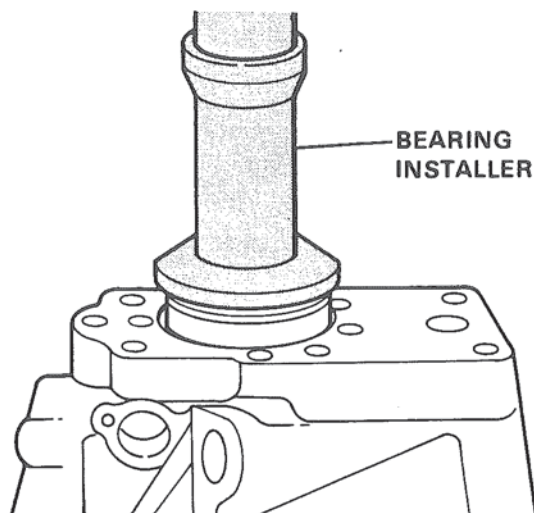

Figure 16. Installing Bearing.
7. Using an assembly tool designed to press evenly on the bearing outer and inner races, press bearing down until seated against shaft or case shoulder. Figure 16.